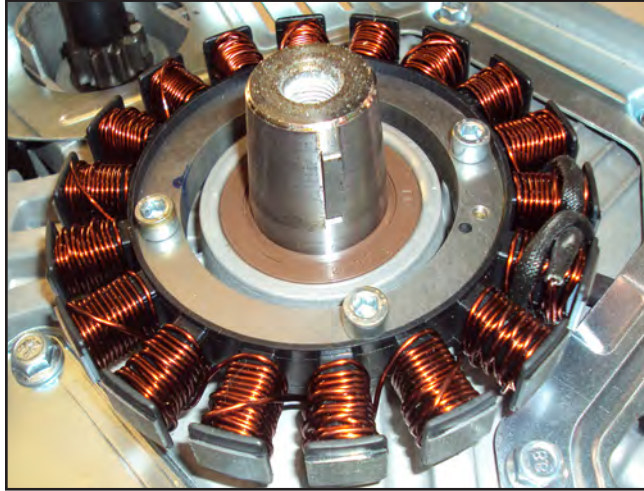

Figure 28
1. Install the stator with the wire harness toward the dipstick tube and engine block (Figure 28).